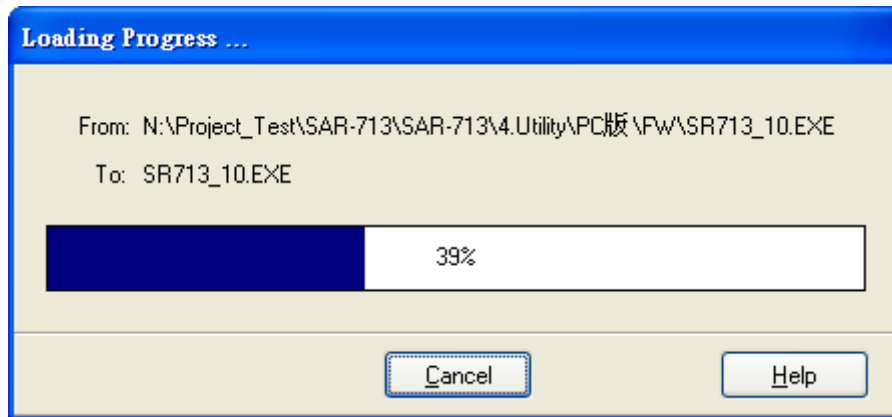

Fig 9.1-7 Firmware Upload
- (3) Choose firmware files of SAR-713 including "autoexec.bat" and "SR713\_10.EXE" files and click right button of mouse to choose the "Upload" function. Then it will start the firmware upload process like Fig 9.1-7.